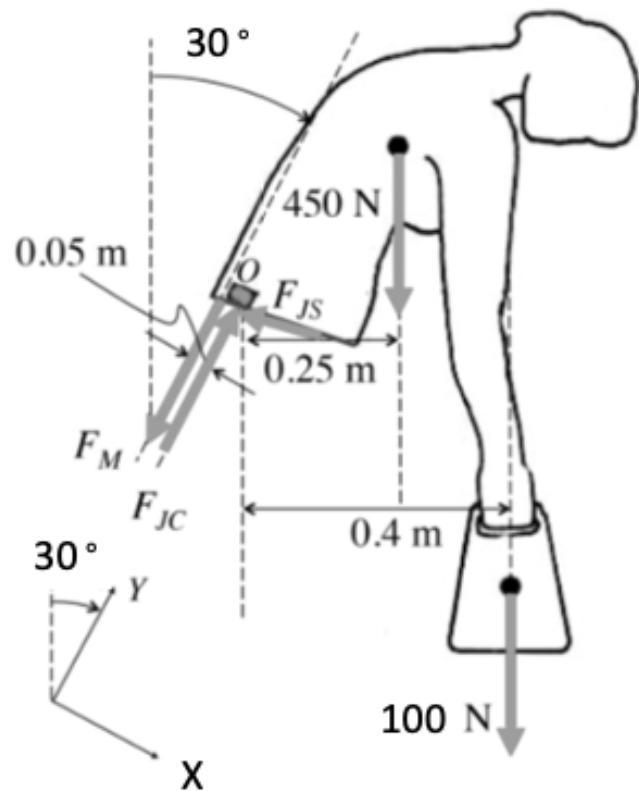

Figure 4 (a) – Aunt Rokiah is lifting 100 N object.
4. (a) Aunt Rokiah, aged 65, is leaning forward as she lifts an object with a weight of 100 N [Figure 4 (a)]. Her head, arms, and trunk have a combined weight of 450 N. Determine the followings,